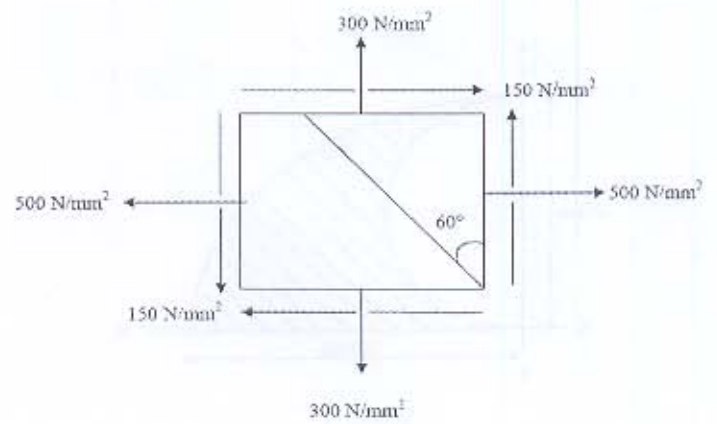

Figure 8
- (a) A point in a strained material is subjected to normal and shear stress as shown in **Figure 8**. Determine Normal (p_n), Tangential (p_t) and Resultant (p_r) stresses on a plane inclined at 60° with vertical as shown in **Figure 8**. Also find major and minor principal stresses and maximum tangential stress ($p_{t \max}$) and its location.